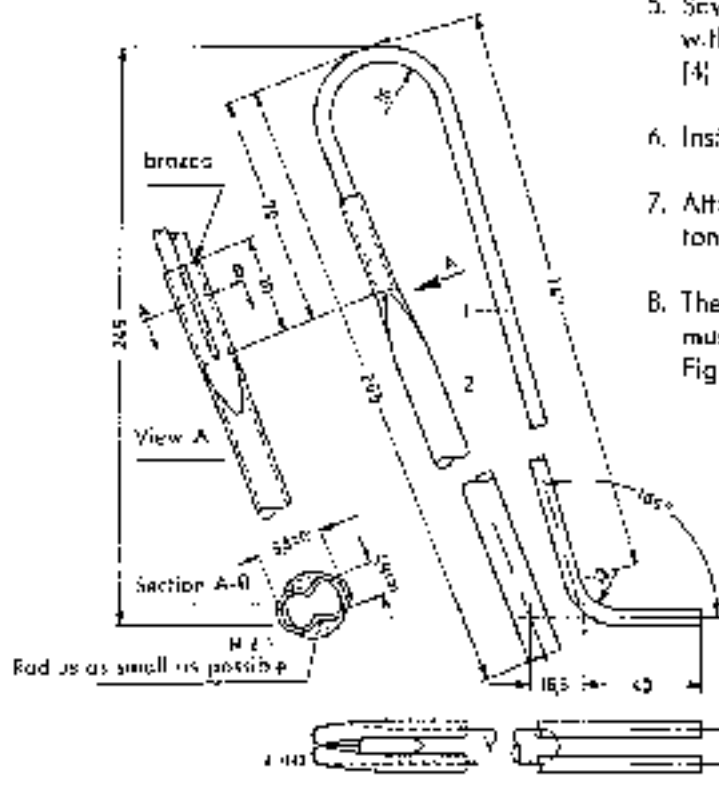

Fig. 47-1/3
5. Saw off the two vent lines (2) and (3) flush with the pipe socket at the breathing line (4) (Fig. 47-1/2)